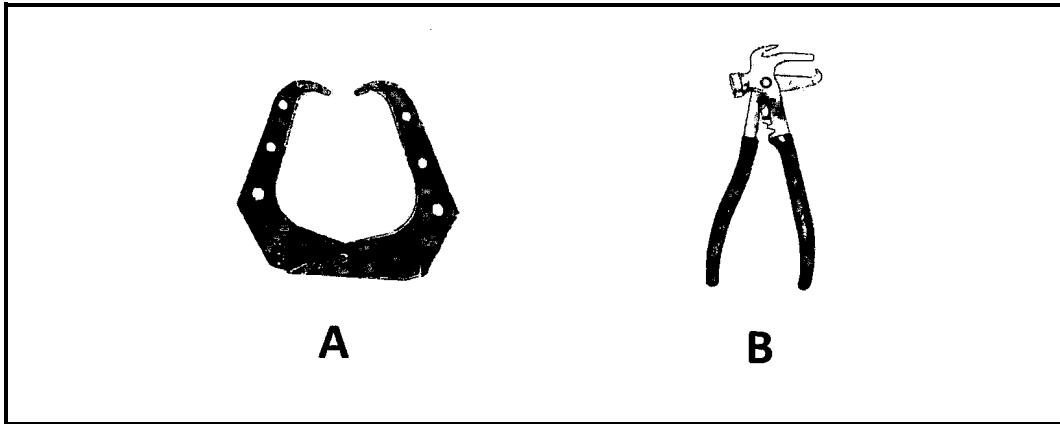

FIGURE 1
- 2.5 Label the tools marked (A–B) for balancing a wheel in FIGURE 1 below.